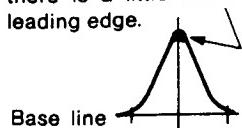

Fig. 10
- Feed in a weak signal to Q102 from the genescope. Adjust T101 for maximum gain and the waveform indicated in Fig. 10. If the center of the waveform cannot be lined up on the marker, adjust the right/left balance.